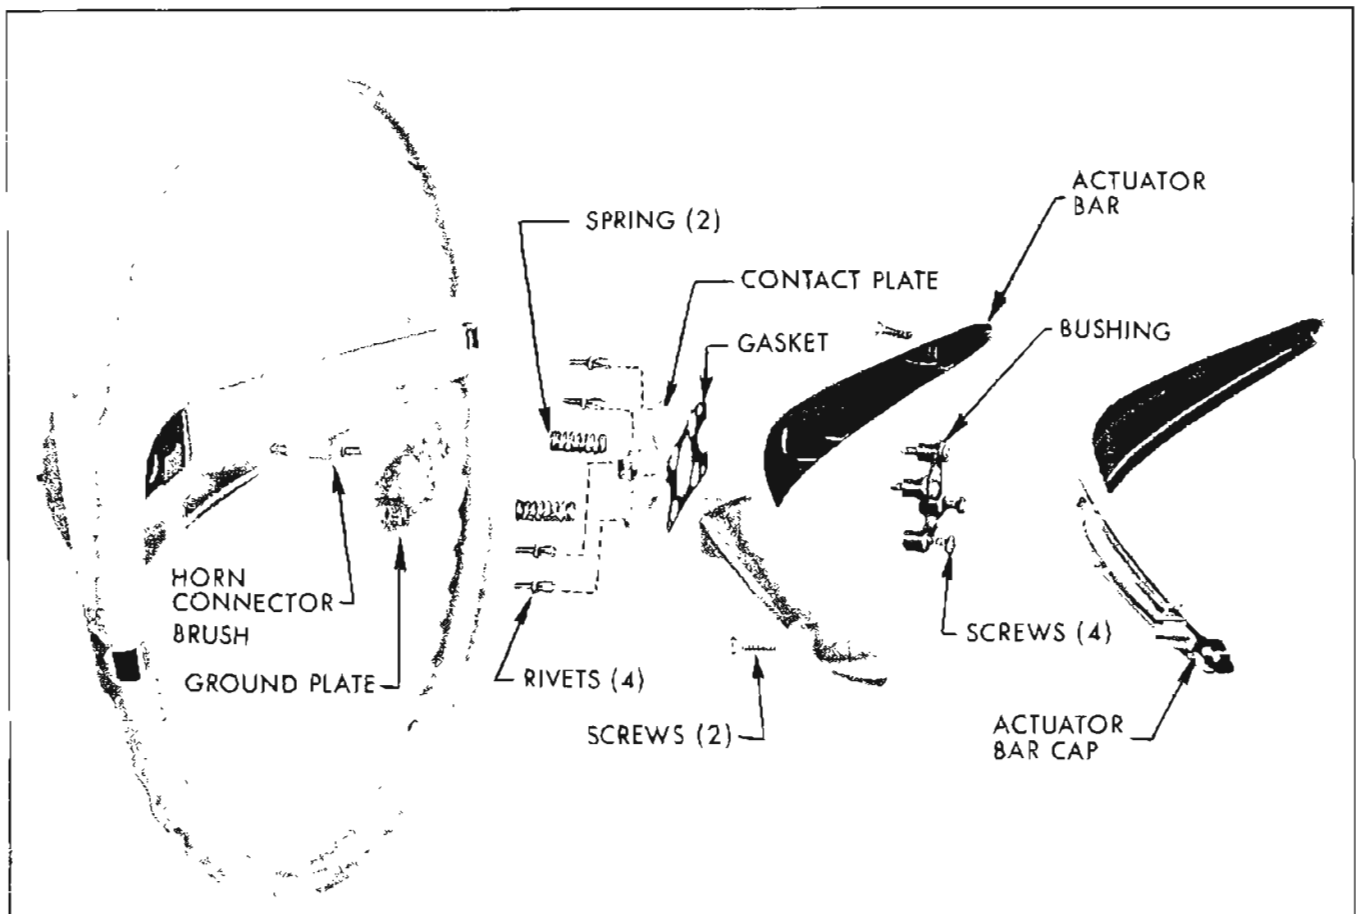

Figure 10-55—Horn Contacts
The steering wheel has an actuator bar mounted across the steering wheel. Fastened to the base of the actuator bar, but insulated from it, is a contact plate which is 'hot' at all times. See Figure 10-55. When the actuator bar is rocked, the contact plate contacts a ground plate on the steel hub of the steering wheel to ground the horn relay winding, close the relay contacts, and blow the horn. When the actuator bar is released, two springs move the actuator bar and contact plate assembly clear of the ground plate.
1. Break circuit at connector for horn wire that enters steering mast jacket (tan wire) and ground wire from horn relay. If horn now blows, horn relay ground circuit in mast jacket or steering wheel has an open. Reconnect wire on connector and check horn wire and horn contacts. Circuit from connector at mast jacket to contact on steering wheel must be complete. To remove horn contact, remove two retaining screws from actuator bar cap. Remove four clutch-head retaining screws from actuator bar. Remove four plastic retaining rivets from actuator plate. See Figure 10-55.